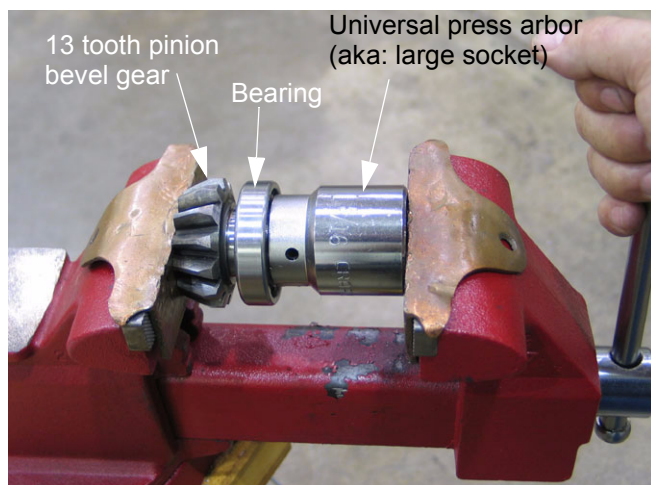

Figure 8.14
- 8.14. Carefully press the 13 tooth pinion bevel gear into the bearing that carries it. Use care to isolate pressing force to the inner race of the bearing. See Figure 8.14.